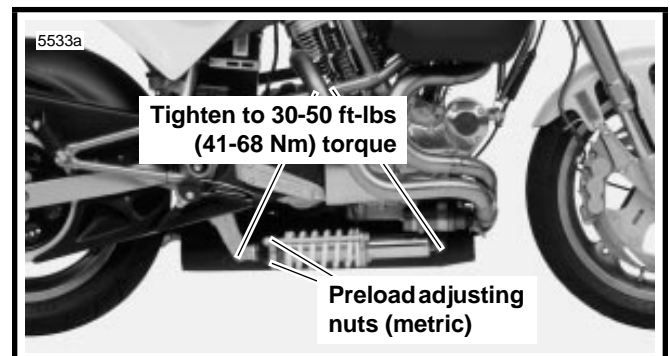

Figure 23. Shock Absorber Mounting Hardware
1. See Figure 23. Tighten shock absorber fasteners (metric) to 30-50 ft-lbs (41-68 Nm) torque.